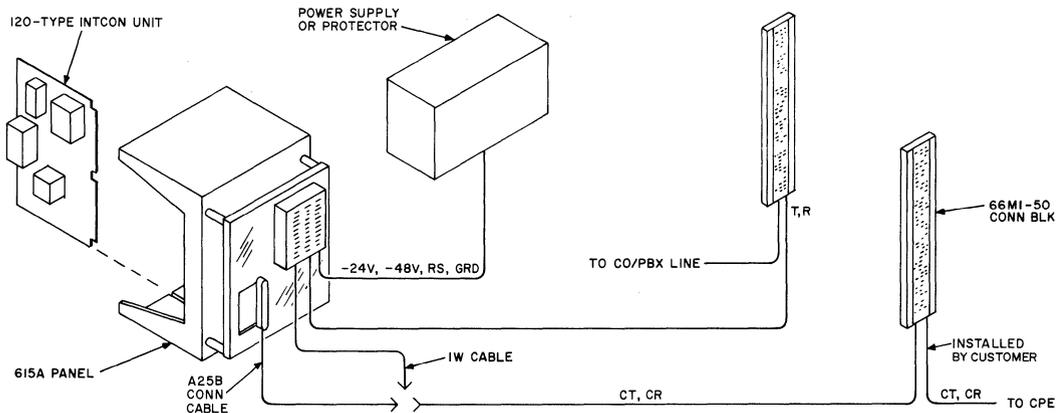

Fig. 4—Block Diagram, PCA STP or C2F Using 615A Panel
3.07 Leads CT and CR are multiplied, both in plug P1 and in the 66T1 connecting block, so connections can be made by either of the following methods (Fig. 4):